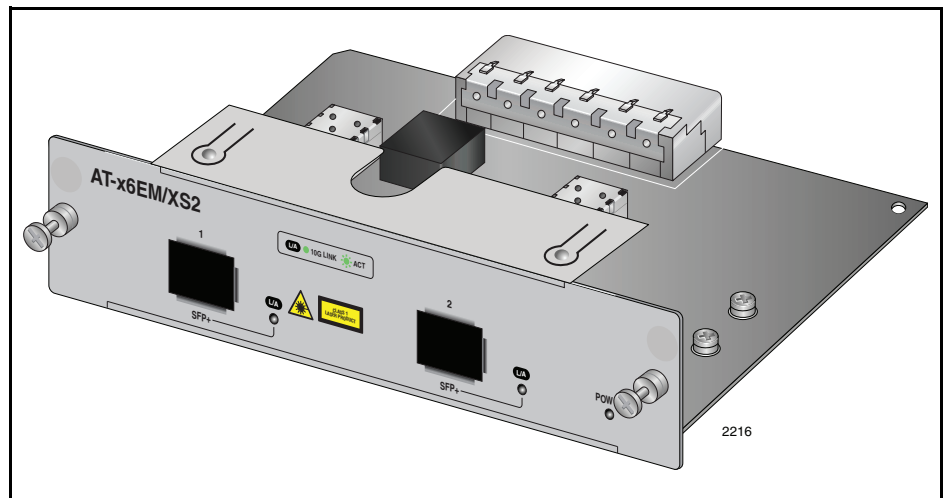

Figure 57. AT-x6EM/XS2 Stacking Module
- ❑ The AT-x6EM/XS2, shown in Figure 57, has two 10 Gbps SFP+ stacking slots.